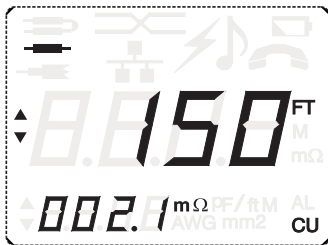

Figure 4-2. Set Length Mode screen.
The Set Length function allows the user to change factory default ohms per feet coefficients values, based on a sample length of wire. Press the **SET LEN** key to toggle between the AWG Mode screen (Figure 4-1) and the Set Length Mode screen (Figure 4-2, below). In Set Length mode, the unit measures the sample wire's resistance. Press the **UP/DOWN** keys to adjust the wire length from 100 to 200 feet (31.3 to 62.5 m). The smaller digits display ohms per feet, based on the sample wire. Press and hold the **SET LEN** key down for a few seconds to store the new coefficients and override factory default values.
3. Press the **SET LEN** (LEN = Length) key, and the Set Length screen (Figure 4-2) appears. In this mode, use the **UP/DWN** keys to adjust the larger digits to match the length of the sample wire (100–200 ft. range). If the sample wire is 150 feet and its resistance is equal to 0.315 ohms, the smaller digits on the left-hand side of the screen will display “0.0021 ohms/ft. (150 feet/0.315 ohms = 0.0021 ohms/ft.)